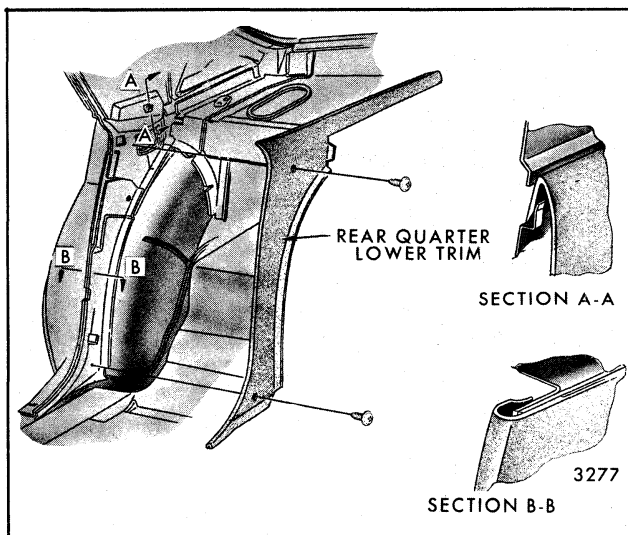

Fig. 6-10-Quarter Trim Assembly Attachment - "A, B and X" Four-Door and "A-80" Styles
2. On "A, B and X" styles, remove attaching screws from trim panel (Fig. 6-10) and remove trim panel.